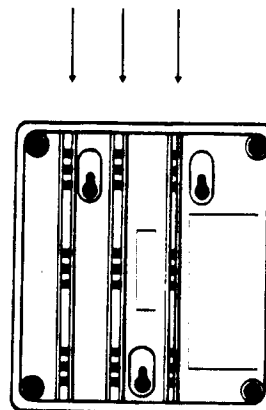

Figure 2-10. Cable Routing Channels
1. Turn the TRANZ 380 terminal upside down and locate the cable channels. (See Figure 2-10.)